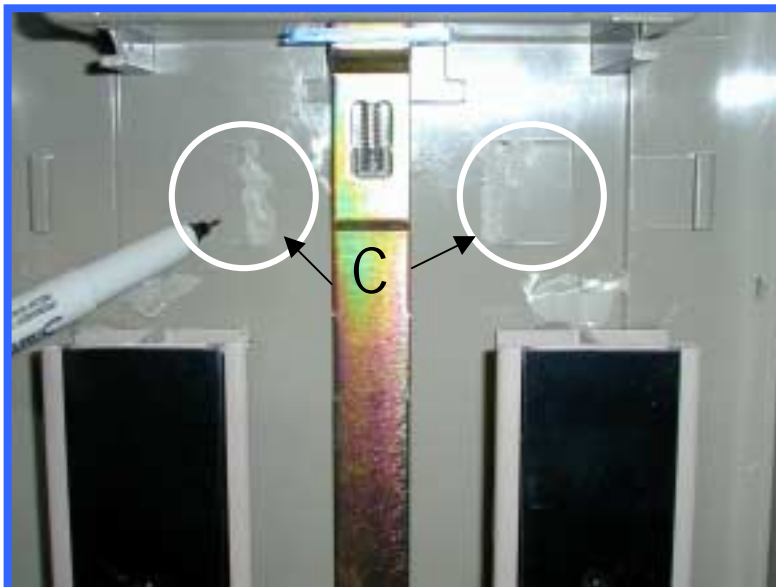

Figure 2
Place a small amount of silicone adhesive between the edge of the rails, the cassette top, and the black insert (B) Figure 2.
Grind the two Rail Guide Supports flush with the Cassette top (C) Figure 2.